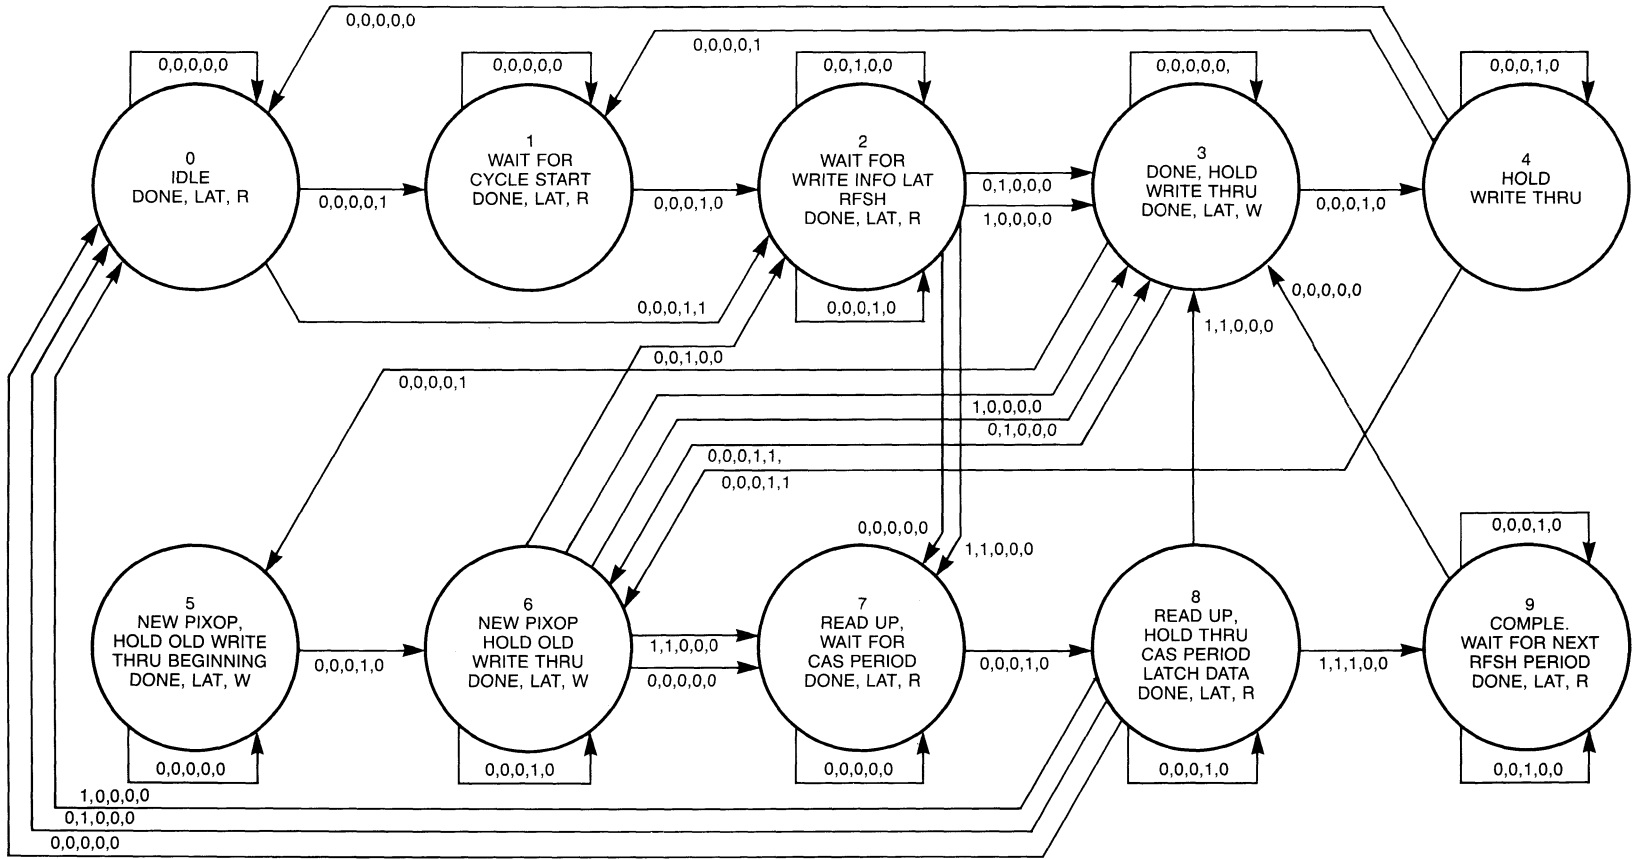

Figure 4-23. Memory Modifier State Diagram
4.11.7.2 Memory Modifier. At the end of a vector read function, memory data (DO0-DO9) is loaded into data selectors U68 and U69. Three bits of select control (COL0-COL3) from the memory control circuit select the vector to be modified. The selected data, if gated high (from U112 flip-flop) produces READAT-L. Data can then be read from the source register. The low output of U112, along with the READAT-L bit, generates DIN providing the data the RAM memory. Write enable (WE) from the memory modifier PROM enables the RAM memory for a read or write operation. The memory modifier PROM also provides the vector generator PROMs the status with a PIXDONE signal once the command has been completed. Refer to figure 4-23.